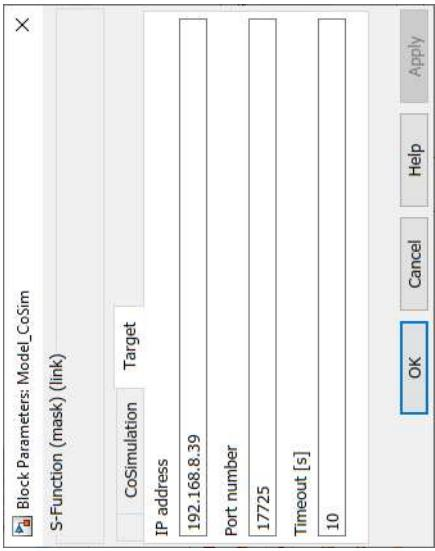

Figure 14-6 Example: changing the connection parameters
- Change the parameters in the “IP address”, “Port number”, and “Timeout [s]” input fields (see Figure 14-6).